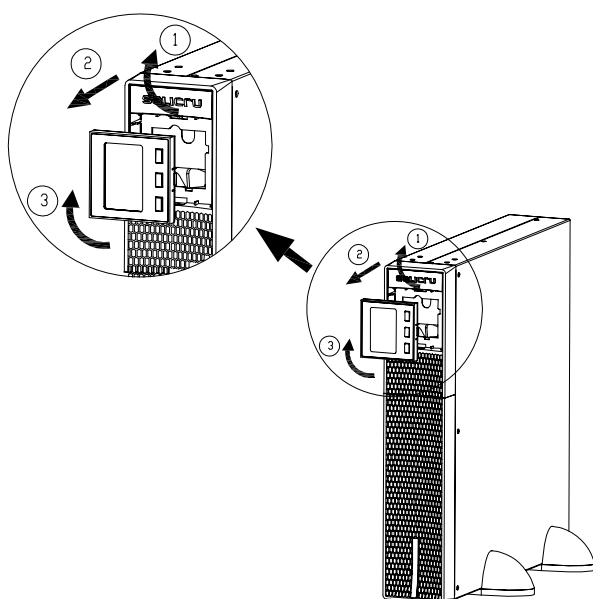

Fig. 9. Rotation of the control panel with LCD display on the plastic front trim.
Connect the earth cable to the corresponding points identified, either terminal or screw (see Fig. 9).
- Fig. 9 shows the connection of a 3 kVA device in a rack arrangement with two battery modules. For a larger number, proceed in a manner similar to those shown in the illustration.